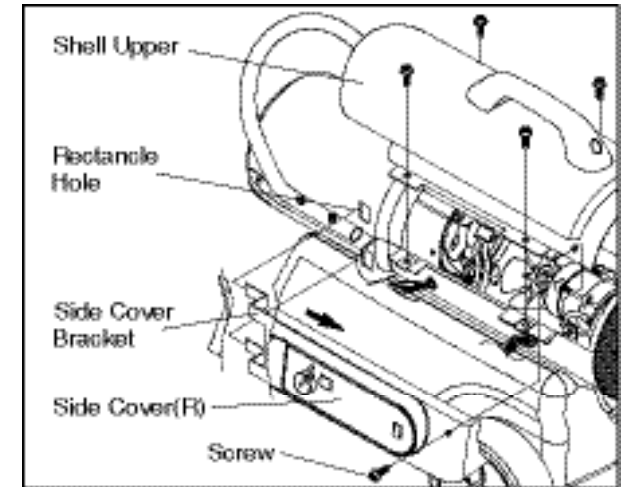

Figure 12. Upper Shell Removal.
- Remove 4 Screws along each side of heater using medium phillips screwdriver. These Screws attach Upper Rear and Lower shells together. (See Figure 12)
- Remove Upper Shell.(See Figure 12)